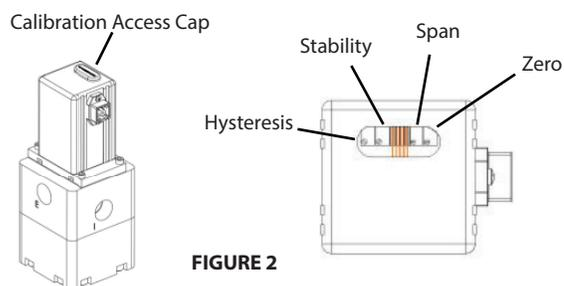

FIGURE 2
4. On the printed circuit board, locate the two adjustment potentiometers SPAN and ZERO. (See figure2)